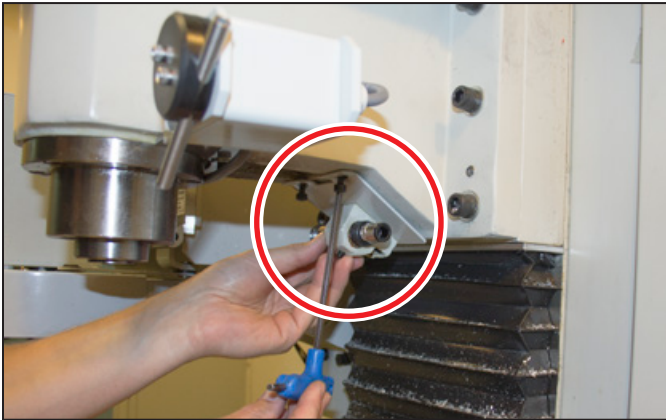

Figure 14
2. Identify mill-specific location for mounting bracket (see **Figure 14** and **Figure 15**).